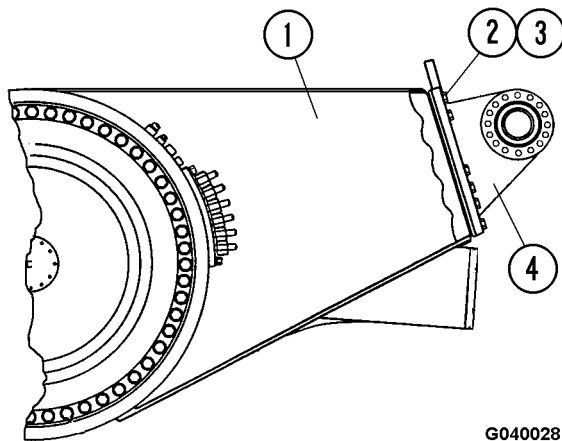

FIGURE 4-2. PIVOT EYE ATTACHMENT
1. Attach a lifting device to pivot eye (4, Figure 4-2). The weight of the pivot eye is 346 kg (762 lb).
2. Remove capscrews (2) and flat washers (3). Remove the pivot eye from axle housing (1).
2. Make sure that the mating surfaces of axle housing (1, Figure 4-2) and pivot eye (4) are clean and not damaged.
4. Lift the pivot eye into position on the front of the axle housing. Insert several capscrews (2) and flat washers (3) to align the parts. Remove the lifting device.